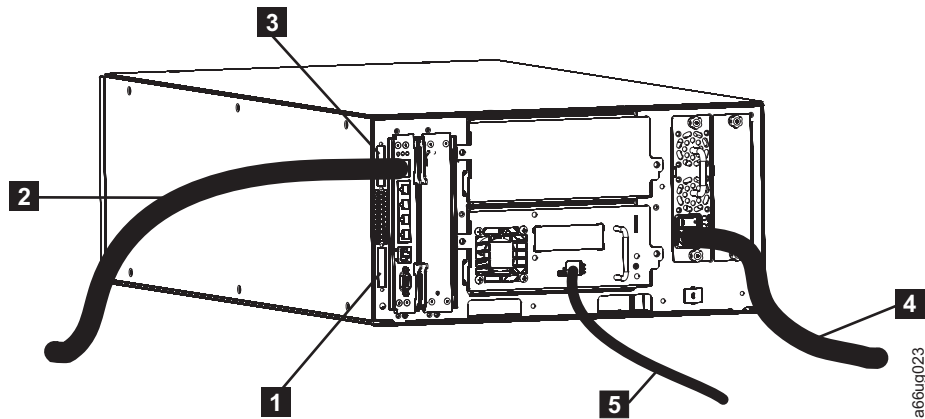

Figure 3-31. Cabling of a 5U library with fibre drives
1. Install the upper module communication terminator (**3** in Figure 3-31).
2. Install the lower module communication terminator (**1** in Figure 3-31).
3. Connect one end of the customer-supplied Ethernet cable (**2** in Figure 3-31) in the Library Control Blade Ethernet port, then connect the other end of the cable to your network.
4. Connect one end of the drive-to-host cable (**5** in Figure 3-31) to the library, then connect the other end of the cable to your network. Repeat this for every drive in your library.
5. Connect one end of the power cord (**4** in Figure 3-31) in the receptacle in a power supply in your library, then connect the other end of the cord to your power source. Repeat this for every power supply in your library.